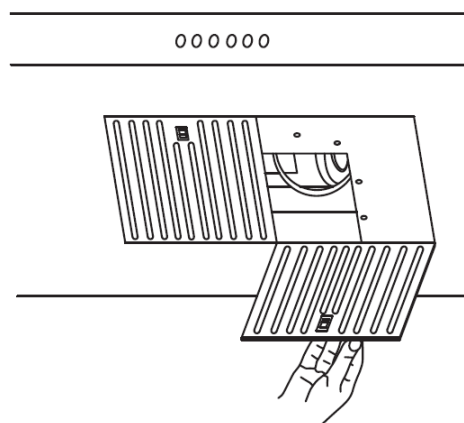

Fig.7
1. Push the clips on the baffle filters and then pull back, then the charcoal filters can be taken down (Fig. 7).